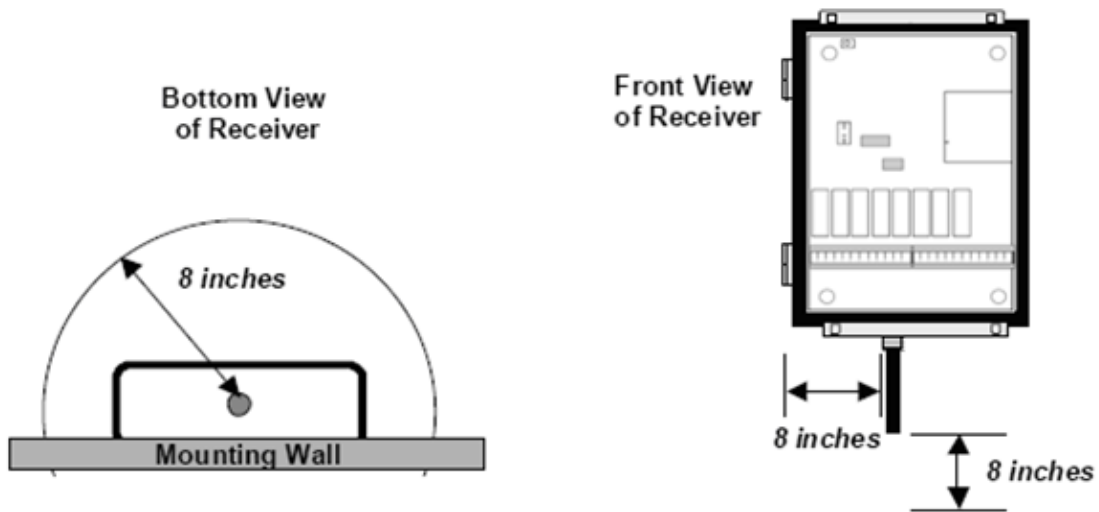

Figure 4: Antenna Clearance
- For optimum performance, give the antenna itself a minimum of 8 inches clearance in all directions, excluding the wall or plate to which the receiver cabinet is mounted (refer to Figure 4)